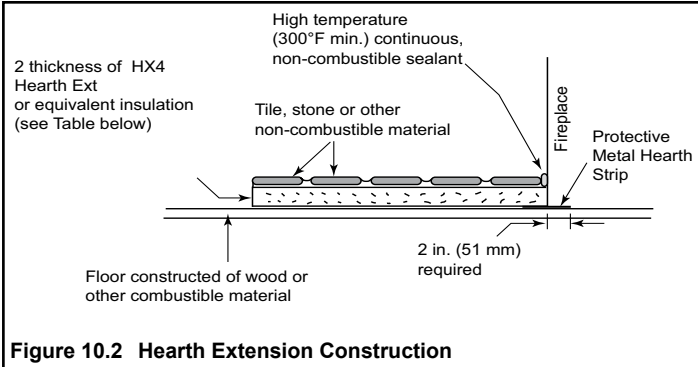
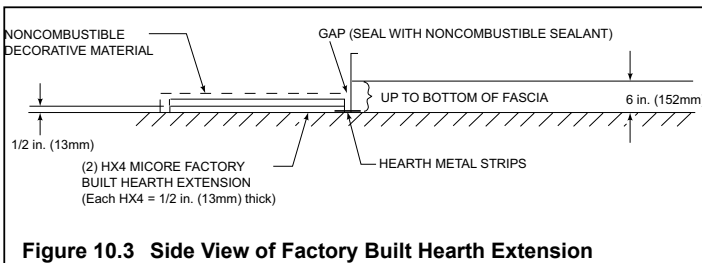

**Figure 10.1** Hearth Extension Dimension
**Figure 10.2** Hearth Extension Construction
- Refer to Figure 10.1 for minimum dimensions.
The hearth framing must be constructed of non-combustible materials (Table 10.2) and placed on an HX4, or equivalent material (Figure 10.2). When creating the platform, allow for the thickness of the non-combustible finishing materials (Figure 10.5).
The construction of, and materials used for a hearth extension are shown in Figures 10.1 and 10.3. A hearth extension of this construction may be covered with any non-combustible decorative material and may have a maximum thickness as per Figure 10.2 Seal gaps between the hearth extension and the front of the fireplace with a bead of non-combustible sealant.
Non-combustible flooring 20 in. (508mm) in front of and 8 in. (203mm) to either side of the fuel opening with a minimum thickness of 1 in. (25mm) and ("k" value = 0.49). See Figure 10.1 on page 55 and Figures 10.3, 10.4, and 10.5.